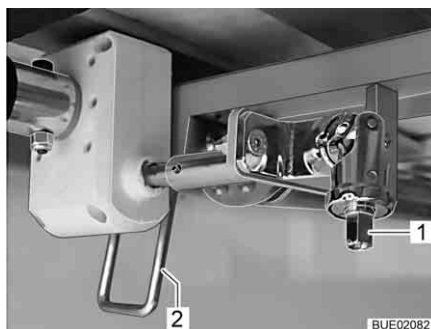

Fig. 119 Height adjustment
- Attach the crank onto the journal (Fig. 119,1).
- Swivel the lever (Fig. 119,2) downwards into vertical position.
- Swivel the lever (Fig. 119,2) upwards into horizontal position.